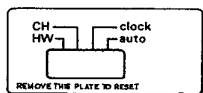
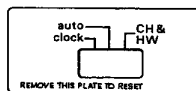

Fig 1. Fully Pumped System
Fig 2. Gravity Hot Water System
First, ensure that a switch cover plate has been fitted over the slide switch. When the programmer left the factory a switch cover plate for Fully Pumped Systems, Fig 1, will have been fitted. For Gravity Hot Water Systems the installer should have fitted the alternative switch plate, Fig 2.
Ensure that the switch cover plate has separate positions for Central Heating (CH) and Hot Water (HW) as shown in Fig. 1.
The switch cover plate to be fitted is the one shown in Fig. 2 and has a common CH & HW position.